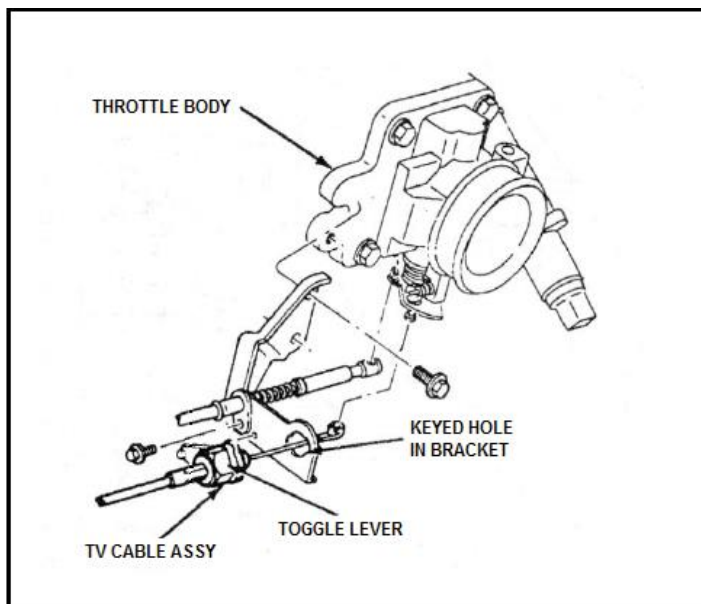

FIGURE 4
The throttle valve (TV) control cable system consists of a cable attaching stud on the throttle body throttle lever, the TV control cable assembly, the external TV control lever on the transmission, and the cable mounting brackets at the throttle body and transmission. (See Figs 4 & 5.)